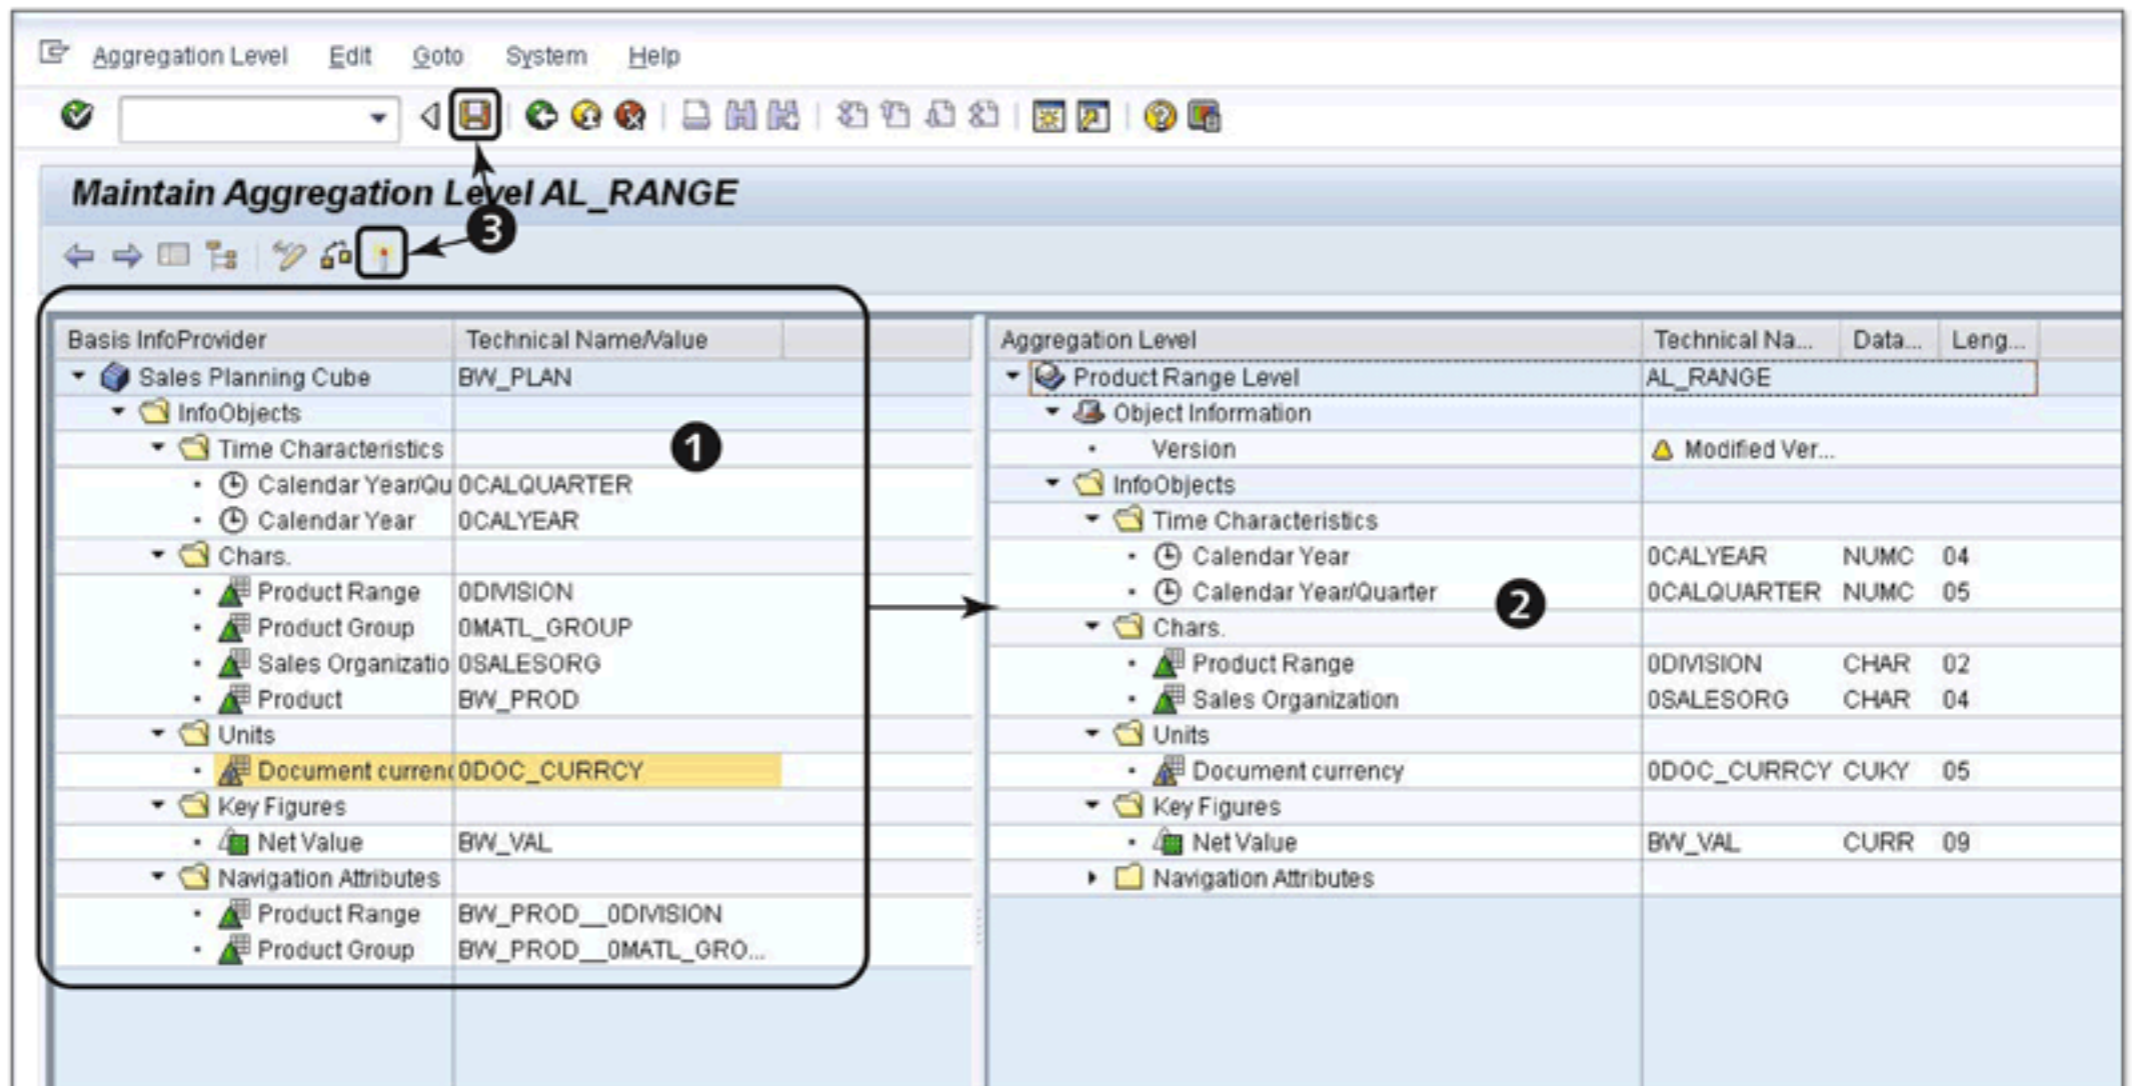

Figure 12.24 Define Aggregation Level
A list of all of the characteristics and key figures from the selected InfoProvider is displayed on the left side of the screen (1 of Figure 12.24). You can define the aggregation level by dragging the specific characteristics and key figures from the left side to the right side of the screen (2).
After you've defined the aggregation level, save it. You also have to activate the level to be able to use it for further planning development. Use the buttons shown in ③ of Figure 12.24 to save and activate the aggregation level.